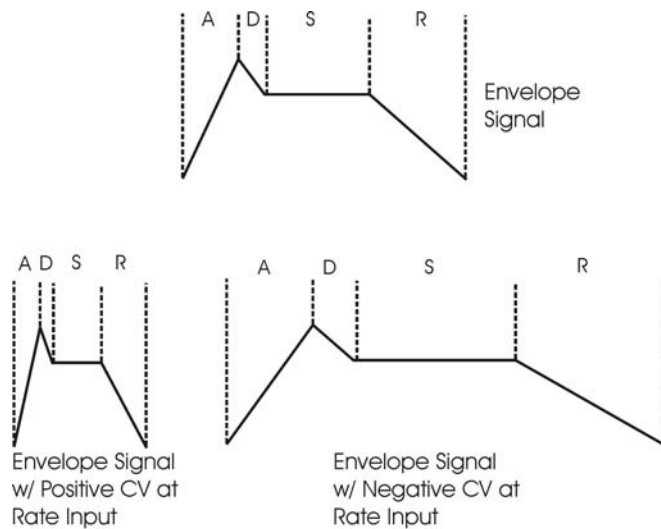

figure 22
**RATE CONTROL INPUT:** The Control Input on the back labeled RATE is a CV input for external control of the Voyager's Envelope time constants. The Input accepts -5 to 5 Volts, or an expression pedal like the EP-1. An expression pedal or a positive voltage applied here *decreases* the attack, decay, and release times from where the front panel is set for both the filter and the volume EGRs. A negative voltage will *increase* the attack, decay, and release times from where the front panel is set for both the filter and the volume EGRs (figure 22).